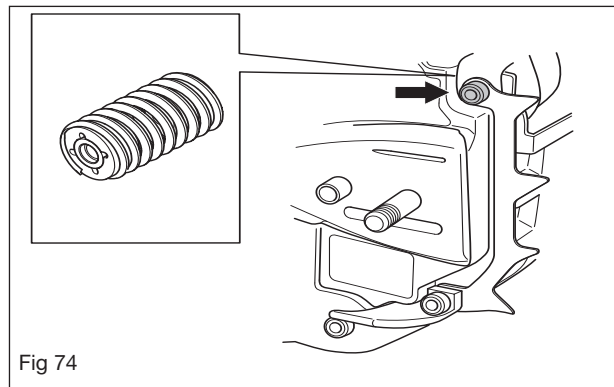

Fig 74
2. Dismantle the springs as outlined in Figures 74, 75 and 76.